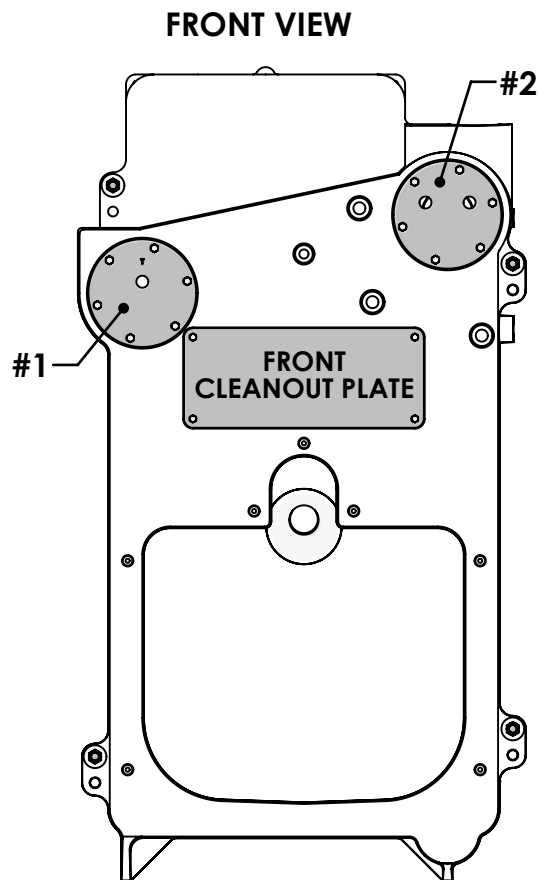

Figure 2.8: Tankless Coil Openings
2. Install tankless heaters, if used, in openings #1 and #2. See Figure 2.8 and Table 2.2.